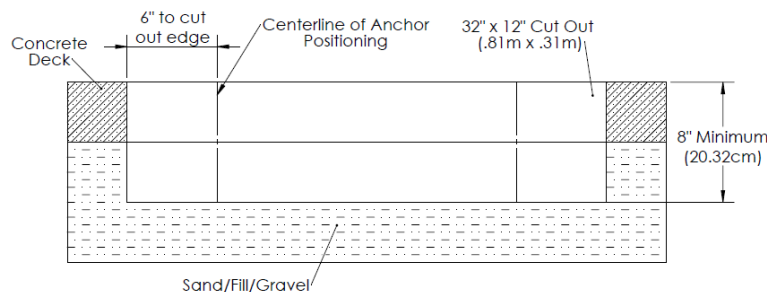

Figure 3
- b. Use a concrete cutting saw; cut a 32" x 12" rectangle out of the existing concrete deck with the anchor's desired centers equidistant from each edge of the rectangular cut out. Using a heavy/sledgehammer, break the cut sections of concrete and remove from the deck. See Figure 3.